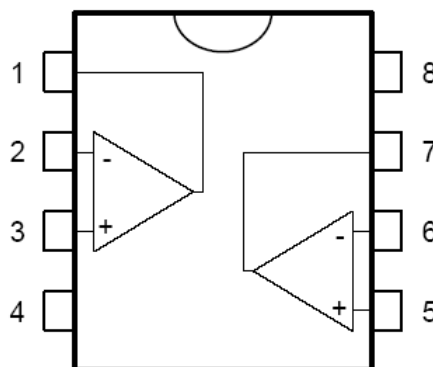
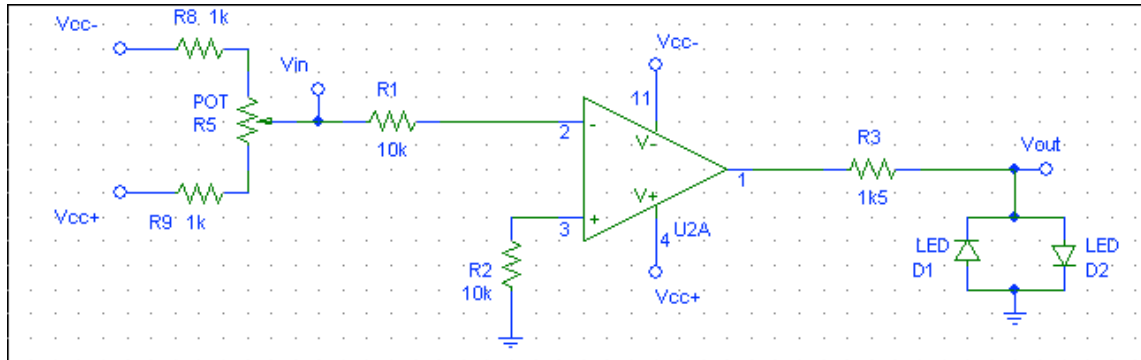

Fig. 1 TL072 operational amplifier pinning. Top view. Power supply $4V_{CC-}$, $8 V_{CC+}$
Fig. 2 Comparator
1. Solder circuit illustrated in fig. 2 using one of the amplifiers from TL072. Potentiometer $R5 = 10k\Omega$. **Warning! The pinning in fig. 2 is incorrect. Please use fig. 1.**